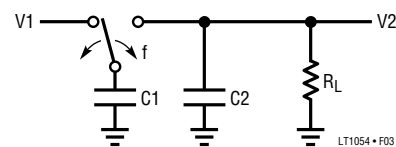

Figure 3. Switched-Capacitor Building Block
In Figure 3 when the switch is in the left position, capacitor C1 will charge to voltage V1. The total charge on C1 will be $q_1 = C_1V_1$. The switch then moves to the right, discharging C1 to voltage V2. After this discharge time the charge on C1 is $q_2 = C_1V_2$. Note that charge has been transferred from the source V1 to the output V2. The amount of charge transferred is:
*SEE FIGURE 3